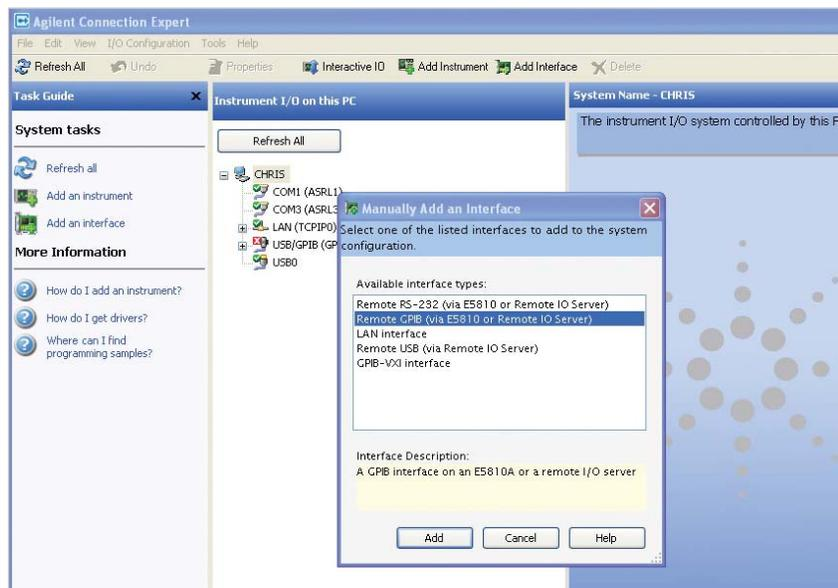

Figure 4. The Agilent Connection Expert utility can help you discover and connect GPIB instruments through the Agilent E5810A LAN/GPIB gateway.
- From your computer desktop or Start menu, start the IO Libraries (Figure 4).